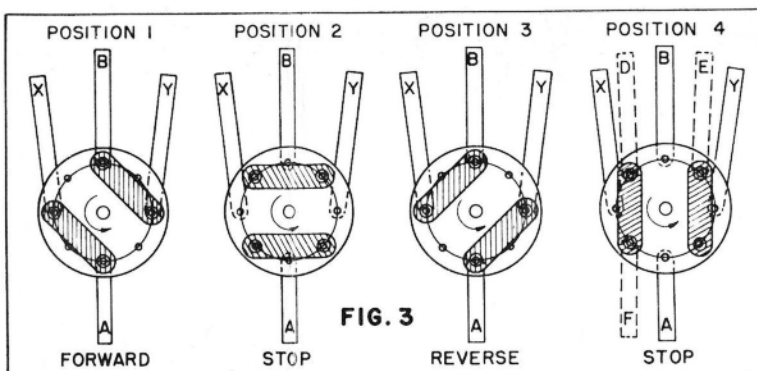
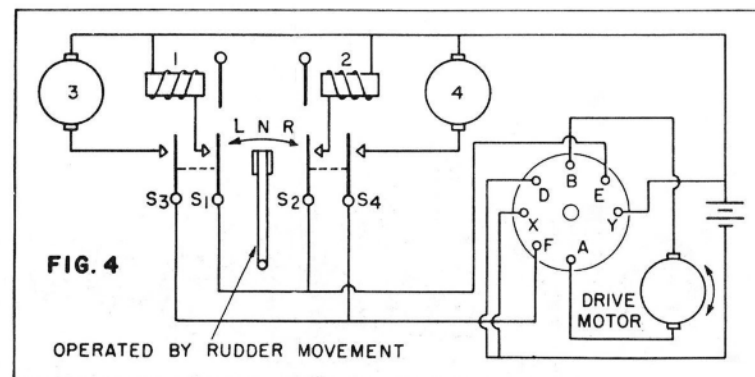

FIG. 3
FIG. 4
**CONTROL POSITIONS:** It will be seen that the steering function of the Aristo-Matic Actuator always follows a regular sequence, such as Straight-Left-Straight-Right-Straight-etc. The built-in drive motor switch also follows a regular sequence, such as Off-Forward-Off-Reverse-Off; this is illustrated in positions I, II, III, IV in Fig. 3. Unwanted steering or drive positions can be passed over by sending rapid pulses to step the mechanism to the position that you desire. This might be done if you wanted to get another left turn after you had just made a left. The unwanted right would be passed through quickly enough that the model would scarcely alter its straight course between the two left turns.
**ADDITIONAL CONTROLS:** Besides the steering and driving functions mentioned above, there are many additional control possibilities that you may obtain from the Aristo-Matic Actuator. Extra contacts may be added to the phenolic plate which holds the A, B, X, and Y contacts seen in Fig. 3. Holes are provided for riveting on three additional contacts, labelled D, E and F under position IV, Fig. 3. These contacts should be made of light springy brass or bronze (shim brass is useful) and should press very lightly on the contact disc. The added contacts must close only when the disc is in a stop position (for the drive motor). Contact D will close with E in one stop position and with F in the other stop position. These contacts can be used to blow horns, operate lights, fire guns, etc.
Of course, these contacts will close any time the contact disc is stepped to either of the drive motor stop positions. More selective switching can be had by use of still other contacts (S1-S4 in Fig. 4) which must be positioned so that they are closed by sending long pulses to swing the rudder plate 2 to one side or the other.
In Figure 4, S1 and S3 will close with the Rudder in Left, while S2 and S4 will close with Rudder in Right. Thus both the rudder plate and the drive motor switch must be in the proper positions before any of the desired auxiliary controls will operate. Fig. 4 shows relays connected via S1 and S2, while electric motors are energized by S3 and S4. Any one of these four auxiliary controls may be operated at will, since the steering and drive motor functions of the Aristo-Matic Actuator are independent of each other. The lettered contacts on the disc in Fig. 4 correspond to the same lettered contacts on Position IV, Fig. 3.
Note that controls 1, 4, 7 and 10 (which correspond to Positions I, II, III and IV in Fig. 3) are obtained by short pulses that do not change the rudder positions, but which do move the contact disc 1/8 turn each. Control operations 2, 3, 5, 6, 8, 9, 11 and 12 are had by giving long pulses which leave the contact disc unmoved, but shift the rudder (and the added contacts S1-S4 you have installed, which are operated by rudder plate 2, to right or left.